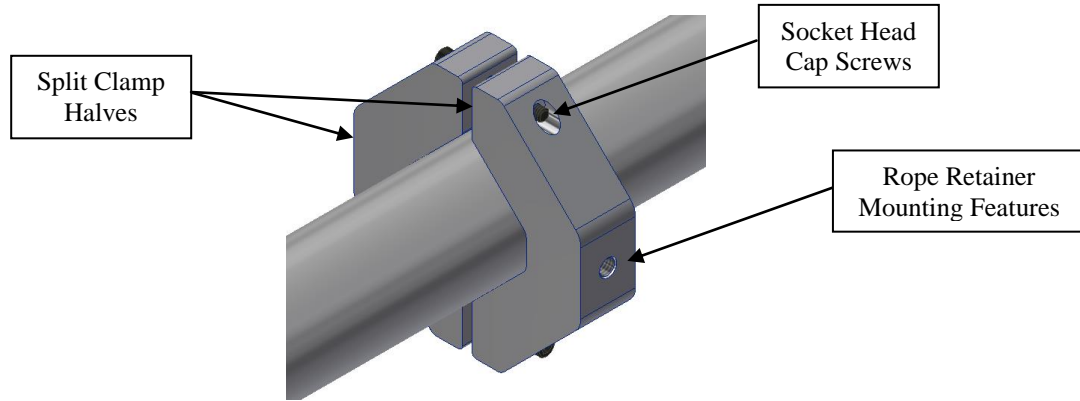

Figure 2: Shaft Split Clamp Mounting Provision
- An assembled view of the split clamp mounting provisions is shown below in Figure 2.